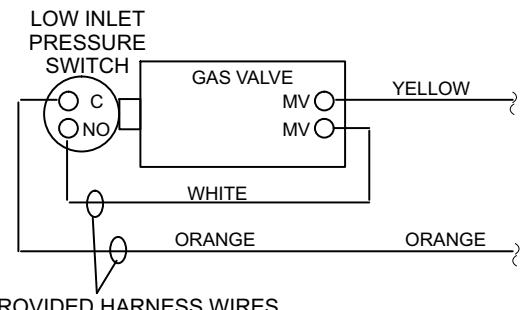

FIGURE 7
- 11 - Thread pressure switch to brass fitting 2 to 3 turns past hand tight, then wire as shown in figure 7.